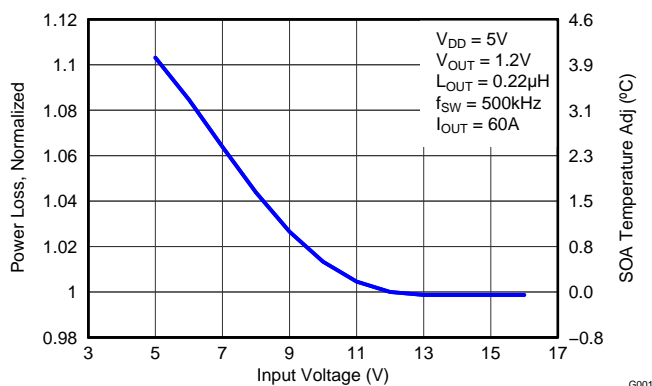

Figure 8. Normalized Power Loss vs Input Voltage
- Normalized Power Loss for input voltage ≈ 1.06 (Figure 8)
- SOA adjustment for input voltage $\approx 2.4^{\circ}\text{C}$ (Figure 8)